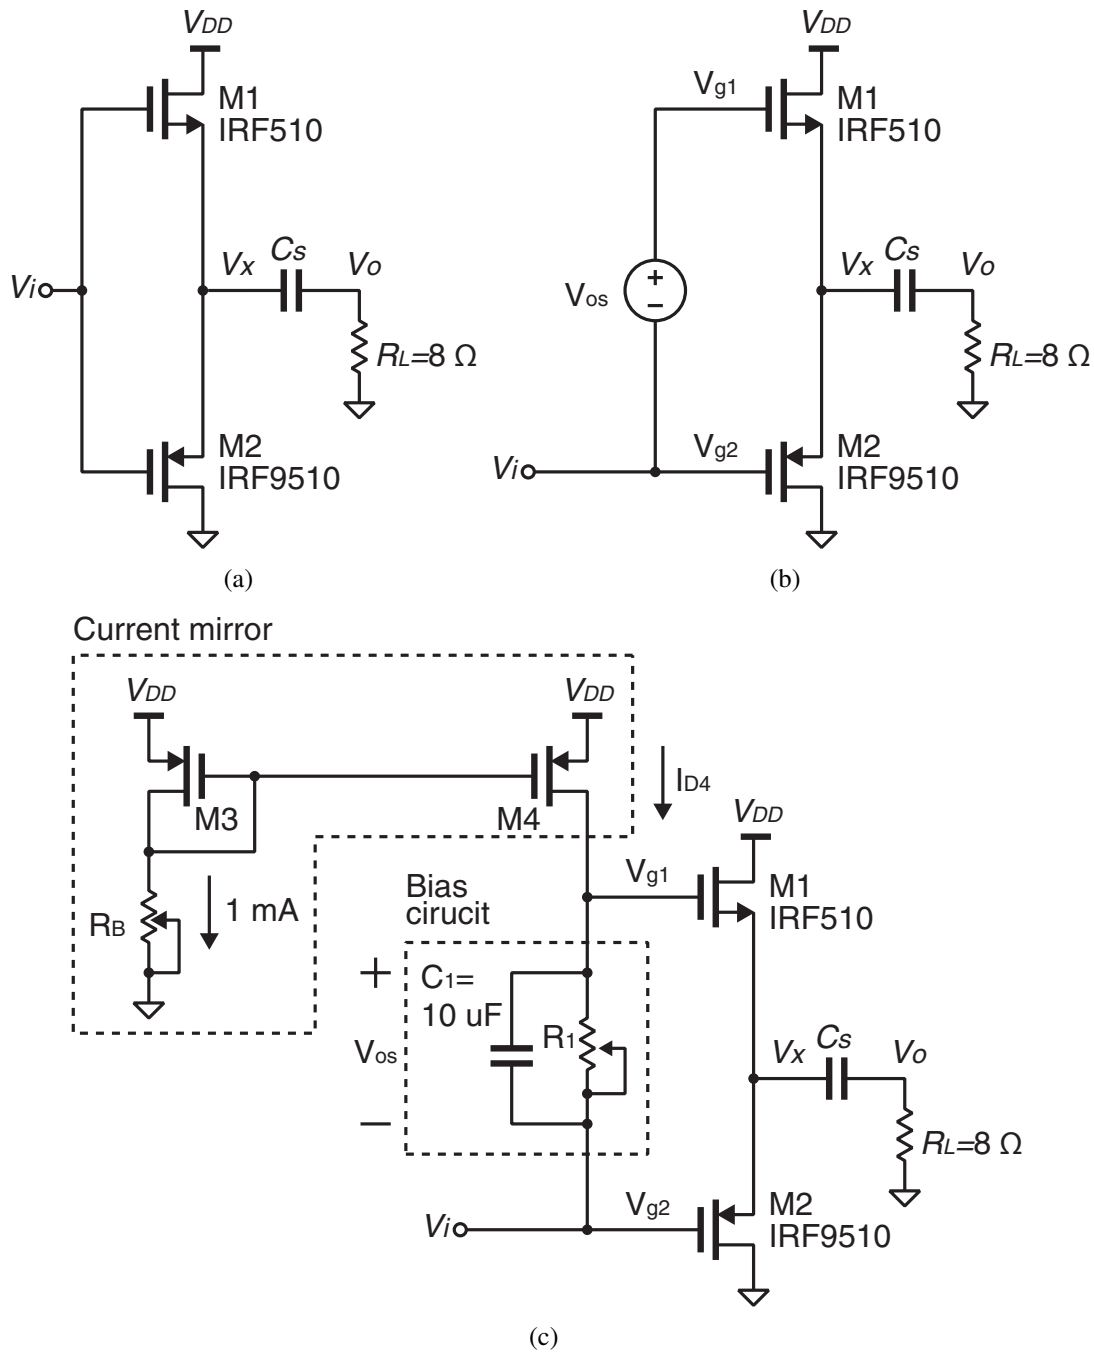

Figure 1: (a) Class B and class AB amplifiers with (b) ideal biasing and (c) bias circuit.
The push-pull power amplifier shown in Figure 1(a) can be used as a buffer because it has a very high input impedance and low output impedance. The push-pull power amplifier is basically a combination of NMOS and PMOS source followers which are responsible for sourcing and sinking current, respectively.
The problem with the push-pull amplifier in Figure 1(a) is the dead zone in which neither of the transistors turn on. This dead zone is caused by the threshold voltages of the transistors and it introduces discontinuity in the transfer characteristics. This mode of operation with a dead zone is called class-B operation.
The dead zone can be cancelled by applying a DC bias voltage (V_{os}) across the gates of the NMOS and PMOS transistors as shown in Figure 1(b). By setting $V_{os} = V_{TN} + |V_{TP}|$, the dead zone is canceled and either NMOS or PMOS transistor is always ON. Setting $V_{os} > V_{TN} + |V_{TP}|$ would also work, but consumes more power because both the PMOS and NMOS transistors can turn on at the same time. The best bias point is where V_{os} is slightly larger than $V_{TN} + |V_{TP}|$ so the dead zone is cancelled while the power consumption is kept low. This mode of operation is called class-AB operation.
The bias voltage V_{os} can be generated with a resistor (R_1) and capacitor (C_1) in parallel as shown in Figure 1(c). The bias voltage V_{os} is simply a product of I_{D4} , which is almost constant, and R_1 . The parallel capacitor C_1 provides a small-signal short between the gates of the power transistors.
2. Simulate the class-B push-pull power amplifier in Figure 1(a) with a 1-kHz 12-V_{pp} sinusoid input biased at 6 V and plot V_i , V_x , V_o , and I_{D1} . Simulate the circuit long enough (about
3. Determine the value of V_{os} and R_1 in Figure 1(c) required to cancel the dead zone using the plot in the previous step.
4. Simulate the class-AB push-pull amplifier in Figure 1(c) using the value of R_1 found in the previous step. Adjust the input signal source such that the output node, V_x is biased at 6 V with a 2-V_{pp} swing. Plot V_i , V_x , V_o , and I_{D1} . Simulate the circuit long enough (about 50 ms) to let C_s settle, and zoom in to the portion close to the end of the simulation to show a few cycles of the sinusoid. Make sure that the power transistors are biased just in class-AB region so the power consumption is kept minimum while the dead zone is cancelled. This step requires fine tuning of R_1 as well as the input signal source.